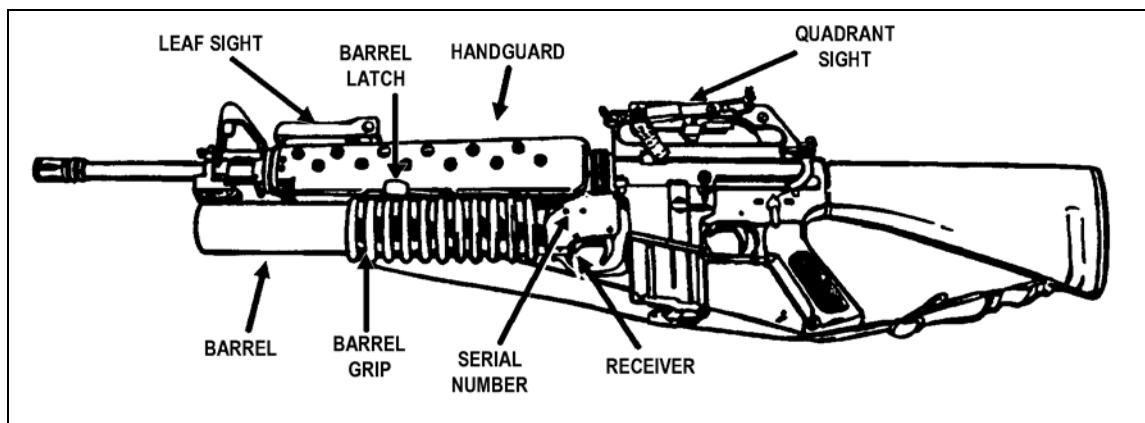
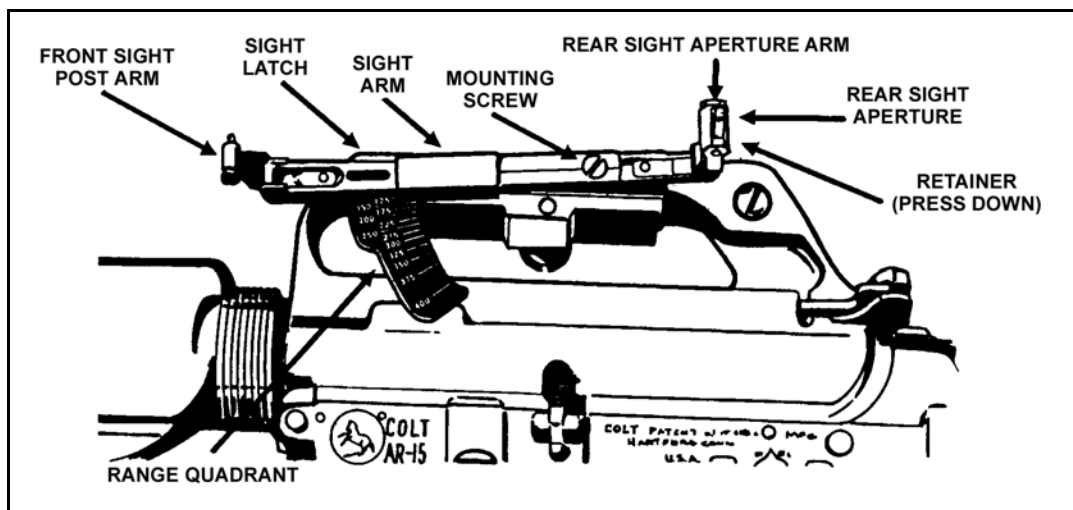

Figure 3-4. Components of the M203 grenade launcher.
Figure 3-5. Quadrant sight assembly.
Figure 3-4 shows the M203's major components, and the following paragraphs describe their purposes. The sight assemblies, the trigger and trigger guard, and the safety are shown in Figures 3-5 through 3-10.
- a. **Handguard.** The handguard assembly houses the rifle barrel (Figure 3-4).
- b. **Quadrant Sight Assembly.** The quadrant sight assembly, which attaches to the left side of the rifle's carrying handle, enables the grenadier to adjust for elevation and windage (Figure 3-4). This assembly consists of the sight, mounting screw, sight latch, rear sight aperture, sight aperture arm, front sight post, and sight post arm (Figure 3-5).
c. **Receiver Assembly and Serial Number.** The receiver assembly houses the firing mechanism and ejection system and supports the barrel assembly. On the left side of the receiver assembly is the launcher's serial number (Figure 3-4).
d. **Barrel Assembly.** The barrel assembly holds the cartridges ready for firing and directs the projectile (Figure 3-4).
e. **Barrel Latch.** On the left side of the barrel is a latch that locks the barrel and receiver together (Figure 3-4). To open the barrel, depress the barrel latch and slide the barrel forward.